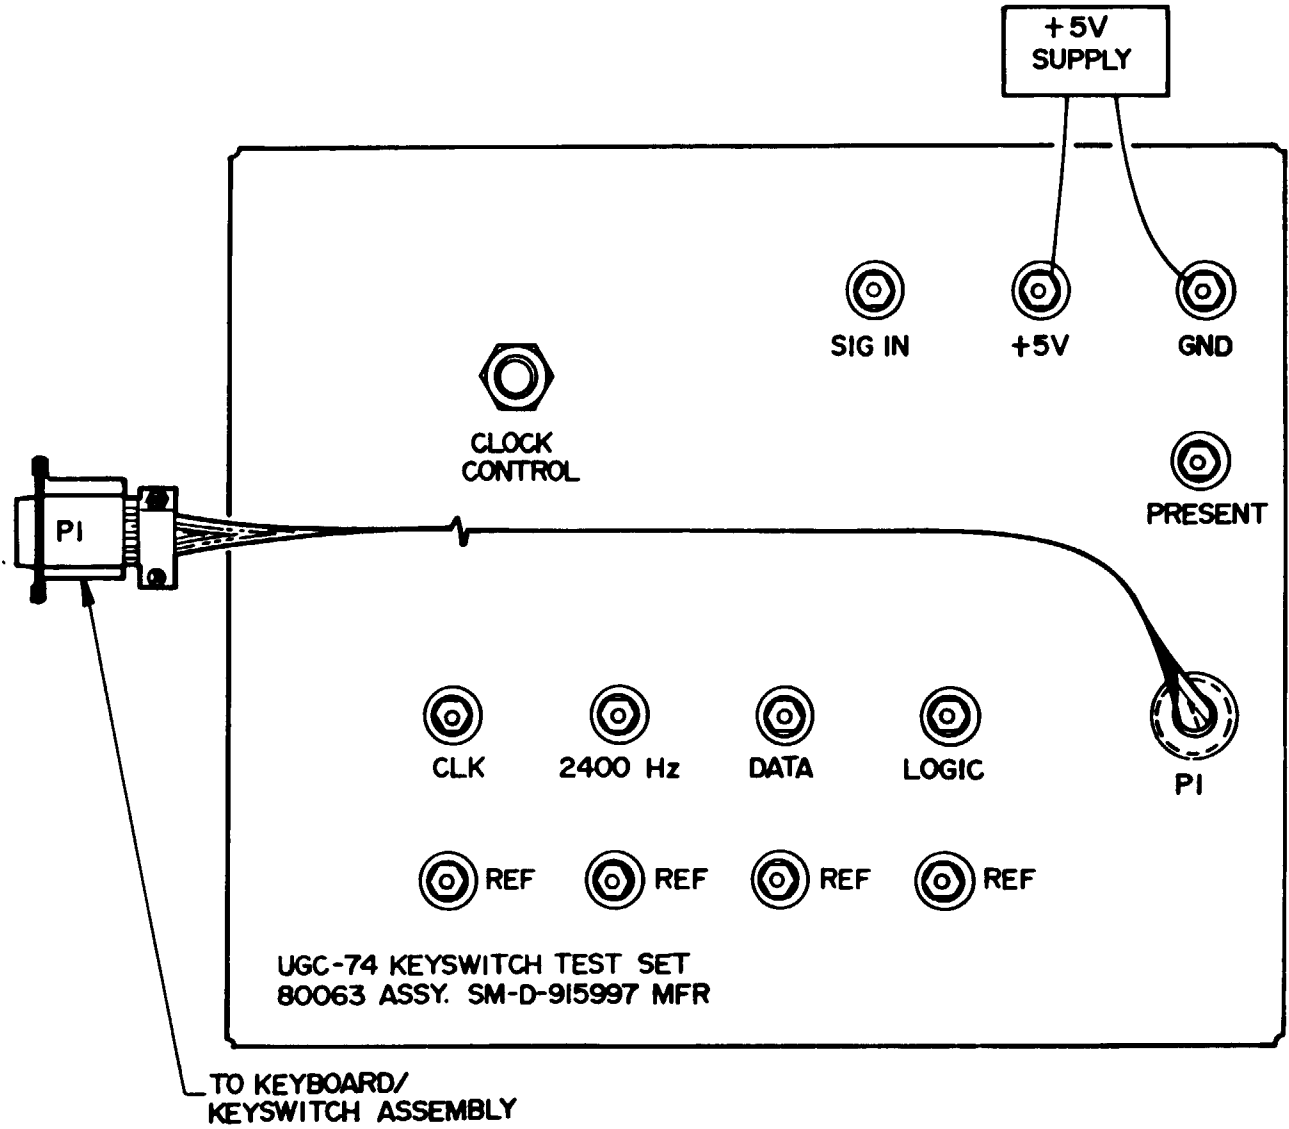

Figure 6-45. KEYBOARD ASSEMBLY TEST CONFIGURATION.
G. KEYSWITCH ASSEMBLY TEST FIXTURE TEST PROCEDURES (fig. 6-45 and 6-46)
- Set up the test fixture as shown in figure 6-45 with the exception of the connection to the keyswitch assembly.